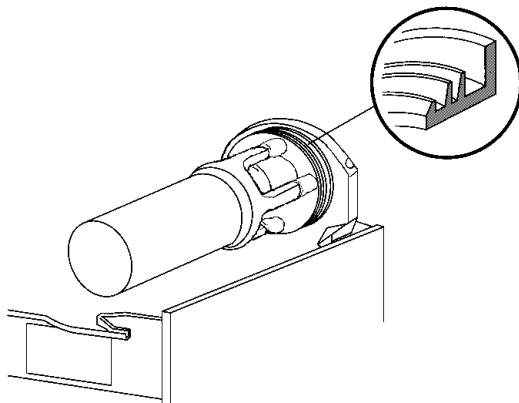

**figure 11**
- 2 - Lubricate faucet piston, inside auger and outer spiral (see points A, B and C of figure 11) only with the grease